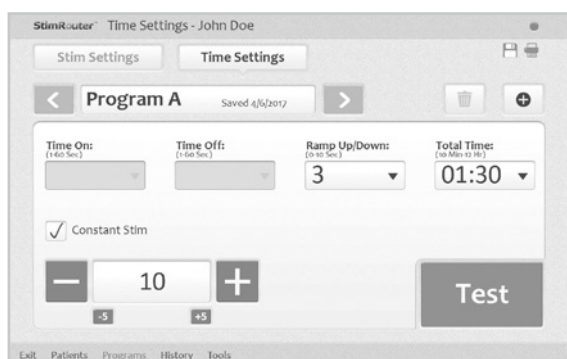

Figure 10-9: Time Settings window
2. The default time setting is constant stimulation. When “Constant Stim” is checked, “Time On” and “Time Off” are disabled; “Ramp Up/Ramp Down” and “Total Time” can be adjusted. See Figure 10-9. To change the “Time On” and “Time Off” settings, uncheck “Constant Stim” box and adjust “Time On” and “Time Off” using the drop-down lists.